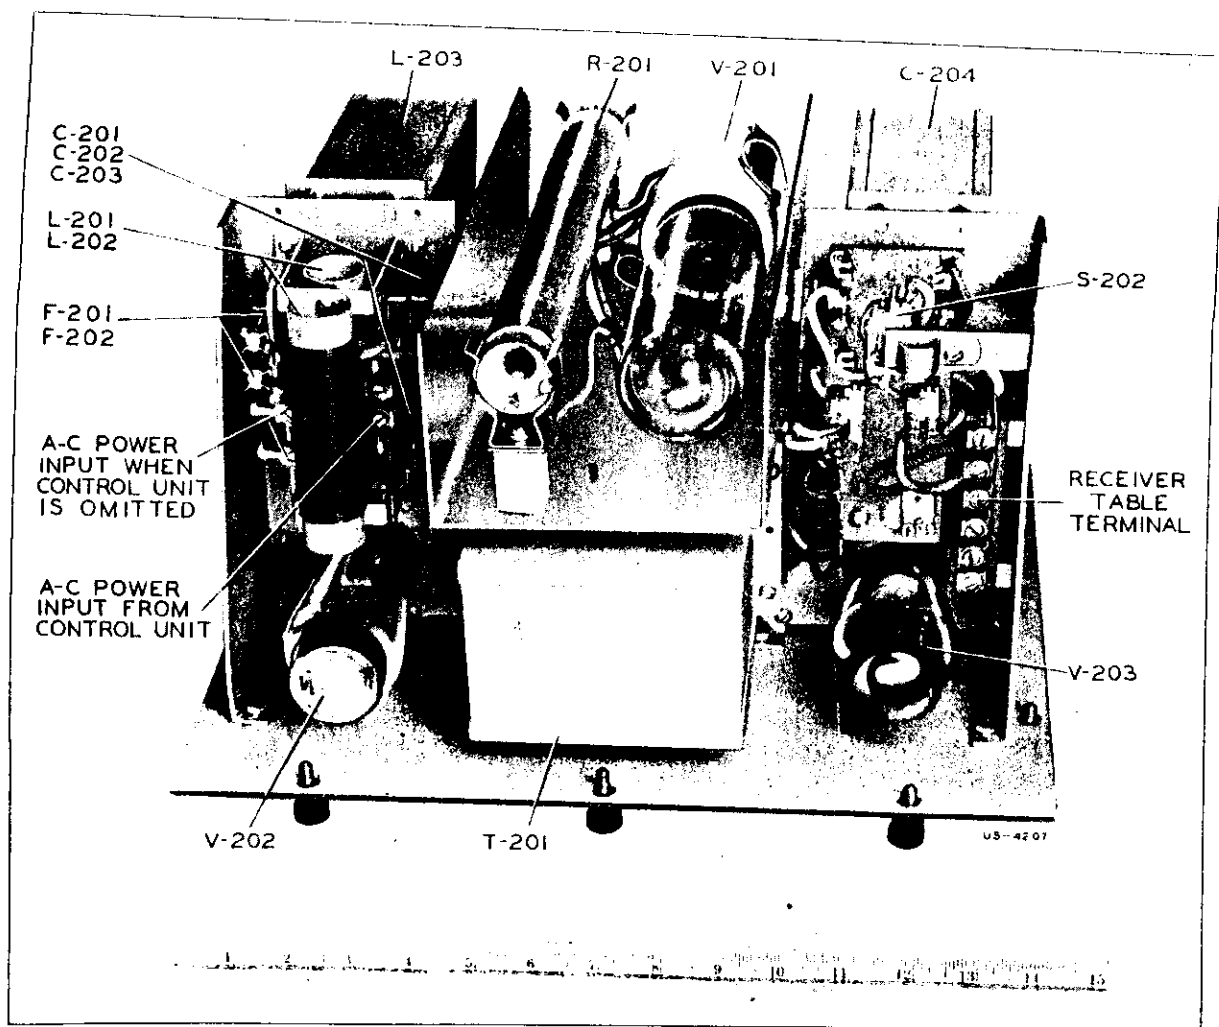

Figure 4 -Power Unit CRV-20131 (Top View of Chassis -Covers Removed)
- 9.5-7 Referring to Figure 15, it will be observed that four terminals are provided for connecting the 110-, 115-, or 120-volt, 60-cycle supply to the power unit. When this equipment is used with the control unit, the power connection from the control unit to the power unit is made to the two right-hand terminals. When no control unit is employed, the connection is made to the left-hand terminals. Connecting to the two right-hand terminals removes the power switch on the panel from the circuit. (See Figure 4.)